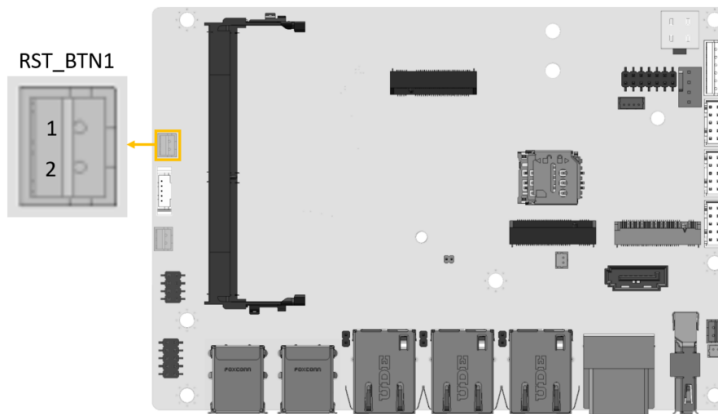

Figure 4-13: Reset Button Connector Location
- CN Location:** See **Figure 4-13**